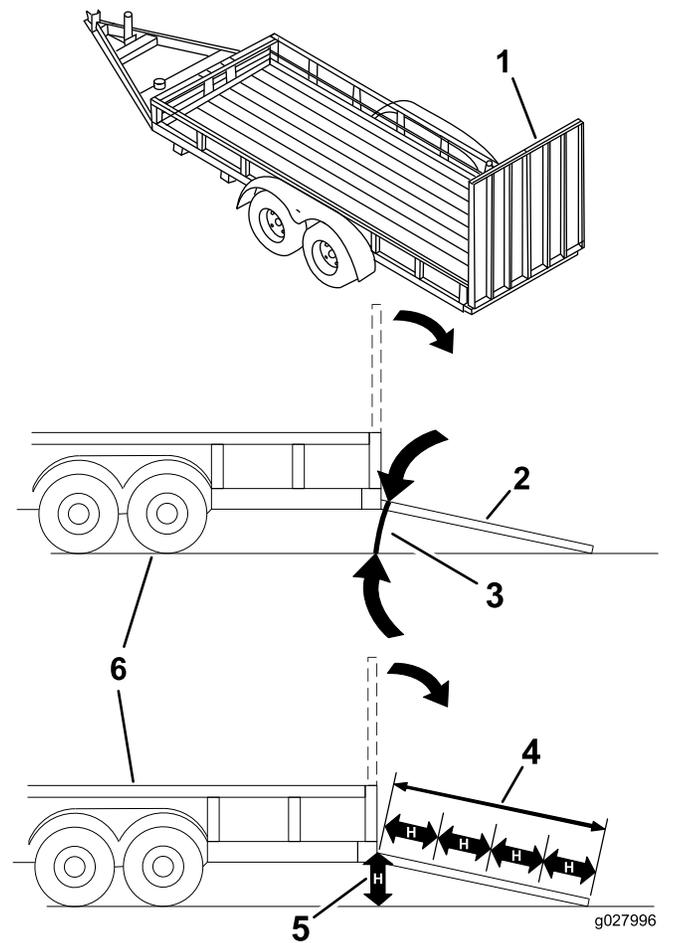

Figure 44
Loading a machine onto a trailer or truck increases the possibility of tip-over and could cause serious injury or death (Figure 44).
3. Lower the ramp, ensuring that the angle between the ramp and the ground does not exceed 15 degrees (Figure 44).
1. Lower the ramp, ensuring that the angle between the ramp and the ground does not exceed 15 degrees (Figure 44).